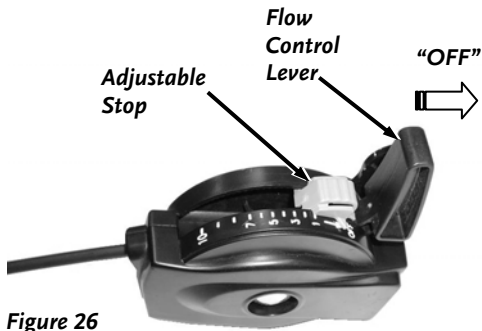
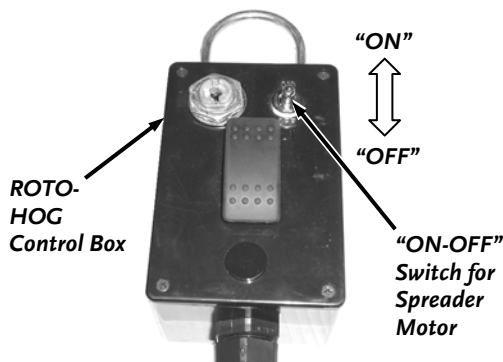

Figure 26
Figure 27
1. Slide the Adjustable Stop to the desired setting ("OFF" is fully closed, "10" is fully open) (Figure 26).
1. Toggle the "ON-OFF" switch of the ROTO-HOG Control Box to the "ON" position (Figure 27). Leave the Flow Control Lever at the "OFF" position until you use the Spreader (Figure 26).
1. Move the Flow Control Lever to the "OFF" position (Figure 26). Toggle the "ON-OFF" Switch to the "OFF" position (Figure 27).